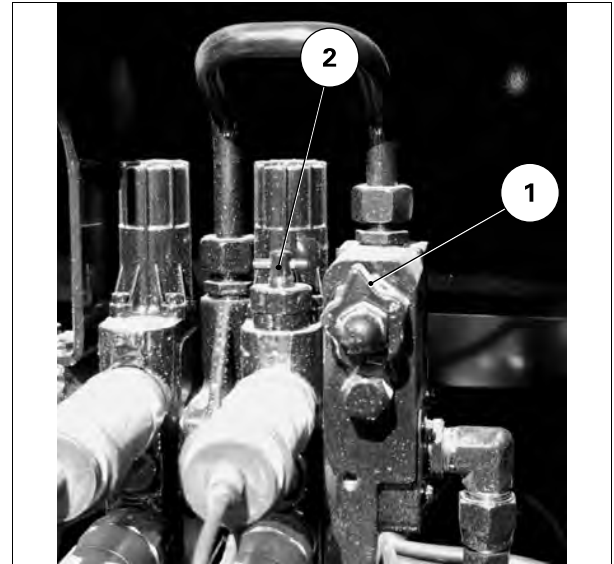

Fig. 1.
This is used to control the flow of oil to this spool valve. This is recommended for implements requiring low quantities of oil, to ensure a precise flow rate, or to adjust the speed of hydraulic motors. It also maintains an adequate flow of oil so that the linkage and the external circuit may be used simultaneously. To adjust the oil flow, turn the button (1) fig. 1 of the relevant spool valve.